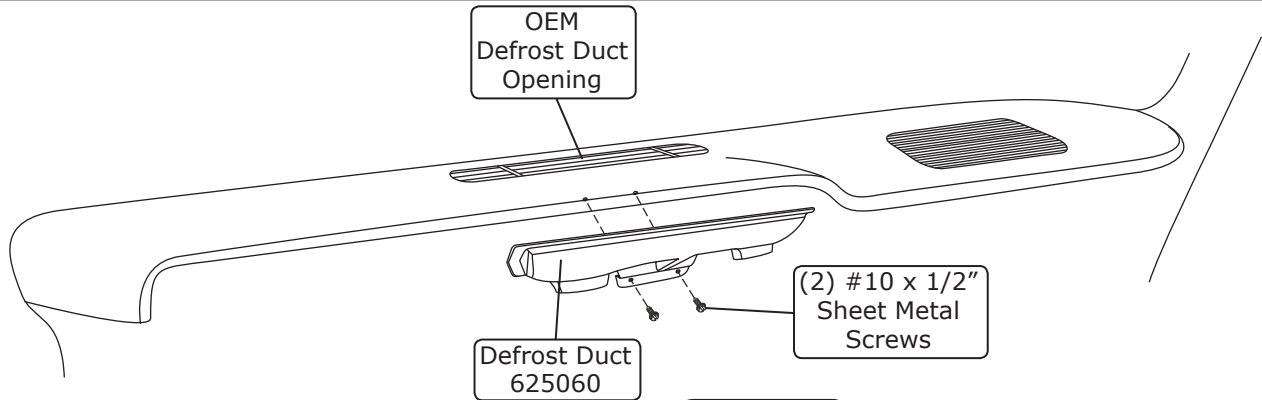

Figure 3
1. Install the defrost duct under the dash, and align it with the OEM opening. Attach the defrost duct to the cowl using (2) #10 x 1/2" sheet metal screws (See Figure 3, below). **NOTE: Apply silicone to the screws to ensure a leak-free installation.**